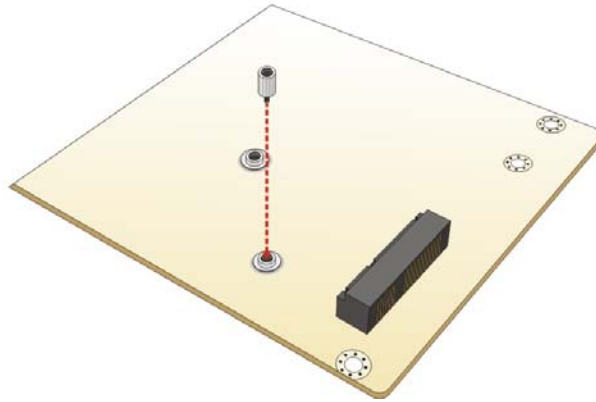

Figure 4-8: Installing the Standoff
Step 4: Install the standoff to the screw hole for the half-size mSATA module. Install the previously removed standoff to the screw hole for the half-size mSATA module (Figure 4-8).